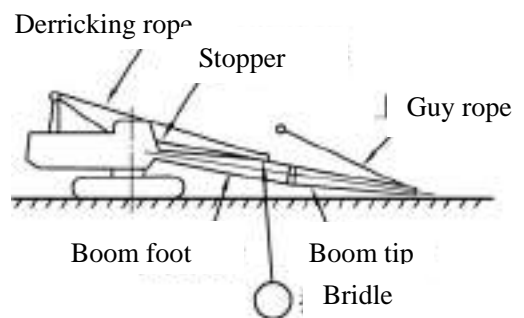

Fig. 7-7
2. Put basic boom on the ground as shown in Fig. 7-7.